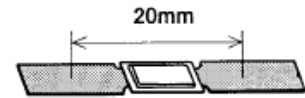

Fig.1
<p>6) When sealing the TCO with resin, select the resin that does not corrode the body and/or terminals. When sealing the overall TCO with resin, test repeatedly on the finished equipment in order to confirm if TCO is damaged by the expansion and shrinkage of the resin itself, by the curing temperature, and if the sealed TCO operate normally. Especially when TCO is assembled by hot-melt casting and so on, keep the working condition so that the temperature of TCO body may not reach up to its Operating temperature minus 15 degrees Celsius and the working time at over its Holding temperature may not take longer than ten minutes.</p> <p>7) When immersing equipment on which the TCO is mounted in varnish or solvent and drying it, repeat the test to check whether or not the varnish or solvent used dissolves the coating of the TCO or causes damage, such as cracks, before performing the treatment</p> <p>8) TCO does not take the use under the following special environments into consideration. Do not use under the following environments.</p> <ul style="list-style-type: none"> <li>① In liquids such as water, oil, chemical and/or organic solvent.</li> <li>② Under direct sunlight, and/or outdoor and/or dusty atmospheres.</li> <li>③ In place where water condensation occurs.             <ul style="list-style-type: none"> <li>* Use in the following environments may affect the performance of the TCO; Verify performance and reliability etc. before production use.                 <ul style="list-style-type: none"> <li>a. In places full of corrosive gases such as sea breeze, Cl2, H2S, NH3, SO2 and/or NO2.</li> <li>b. In environment with high static electricity and/or strong electromagnetic waves.</li> </ul> </li> <li>* Do not use TCO in aerospace equipment, atomic energy equipment, military weapon, life saving equipment, etc.</li> </ul> </li> </ul> <p>2. Precautions in handling</p> <p>The body of TCO is composed of resinous film, and please do not be pressured TCO with instruments. Moreover, the terminals are thin and have the edges, and please carry out suitable handling not injured. (Using of a glove, tweezers, etc. is recommended)</p> <p>1) Forming and cutting</p> <ul style="list-style-type: none"> <li>① Terminals are to be bent or cut at least 3 mm away from the TCO body to avoid damaging the TCO body. shall not be grasped with any tools or holders. Terminals of thin type TCO are to be grasped before they are bent. (See Fig.1)</li> <li>② It is recommended that experimental assembly be made by production personnel to verify that manufacturing procedures does not exceed neither a pulling forces of 5N nor a pushing forces of 5N on the terminals (pulling forces of 10N and pushing forces of 5N in case of MU/MT series), and that manufacturing procedures does not induce excessive twisting between both terminals or between terminal and body.</li> <li>③ The terminals shall not be nicked, fractured or burned. The body must not be damaged, burned or overheated.</li> </ul> <div style="text-align: center;">  <p>Fig.1</p> </div> <p>2) Welding</p> <ul style="list-style-type: none"> <li>① The terminals are to be certainly clamped not to damage TCO at least 3mm away from the body. Improper connections may cause damage to the body or other parts and may result in nuisance tripping of the devices due to the generation of excessive heat at a faulty high resistance junction.</li> <li>② It is recommended that the preliminary test to determine proper welding conditions is made in order not to make the heat of welding influence TCO, for example, function the TCO or narrow the fusible alloy, etc, and in order that the welding method, like a resistance welding, laser welding, ultrasonic welding and so on, does not damage to TCO.</li> <li>③ When re-welding, cool off TCO in the room conditions for at least 30 seconds.</li> </ul>
DC resistance shall be measured between both terminals including the body at the points of 20mm or the distance specified in the Individual Specifications (if total length of TCO is less than 20mm) at the current specified in the Individual Specifications (See Fig.1). DC resistance shall be within the range specified in the Individual Specifications.